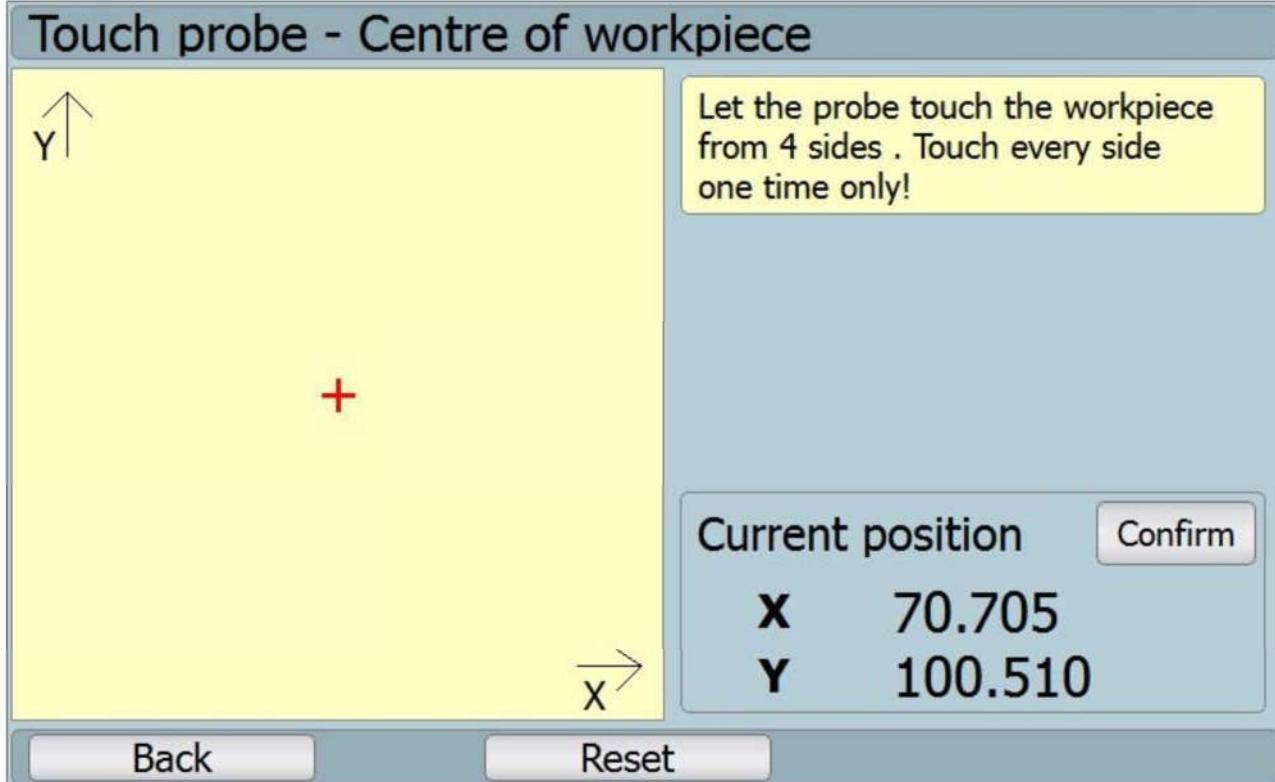

Fig. 48: Touch probe – workpiece centre
- ⑩ It is used for finding the rectangular (square) workpiece entered by means of four points on the touch probe.
- ⑩ After the probe reaches the required coordinate, press button „**Potvrdit**“ (confirm) (see fig. 48: Touch probe – workpiece centre) the first point is drawn in the scene.